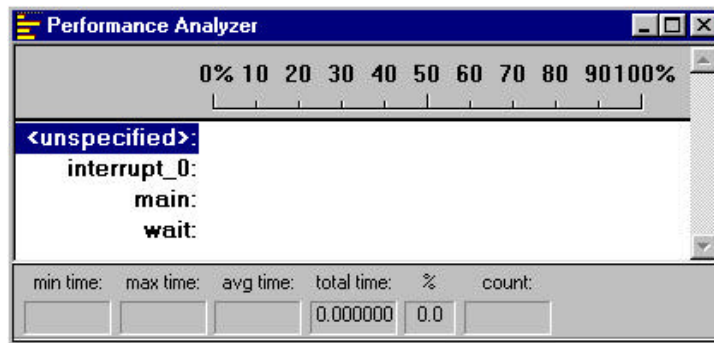

Figure 10.
Before we go any further we first need to configure the Performance Analyzer (PA). This is done simply by right clicking on the PA and selecting the 'Setup PA' option. In the resultant dialog box, double click on each function symbol and press 'Define' in turn. Once this operation is completed for each function symbol, press 'Close' and the PA window should now be configured as shown in figure 10.